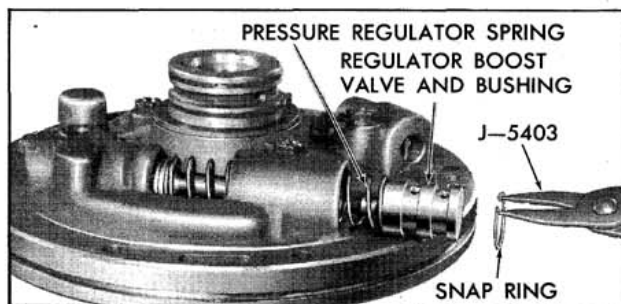

Fig. 6-102 Removing Snap Ring
3. Compress the regulator boost valve bushing against the pressure regulator spring and remove the snap ring, using J-5403 Pliers. (Fig. 6-102)